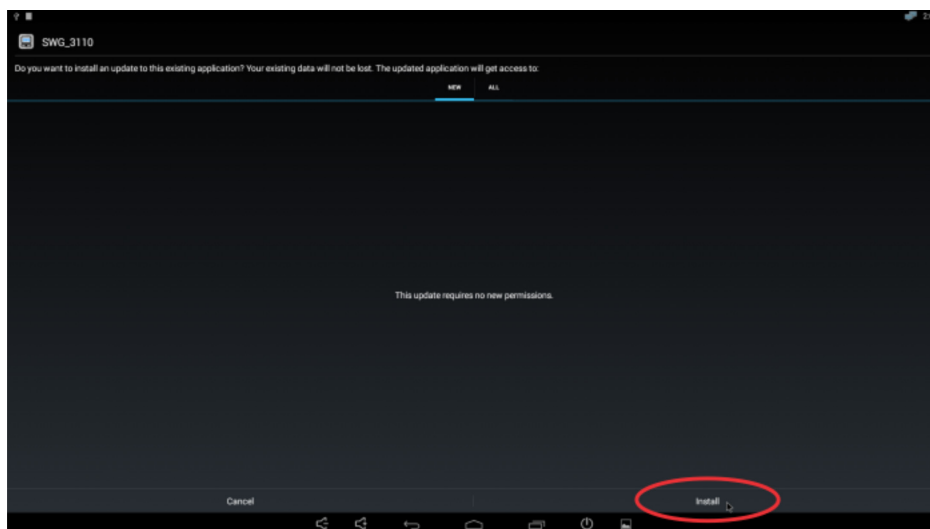

Figure 4.6 – Updating the 3110A/DSR System
4. Select and open the .apk file. You will be prompted to approve new permissions (if any). If no new permissions are required, select the INSTALL button at the bottom right of the screen to start the update process (see **Figure 4.6**).